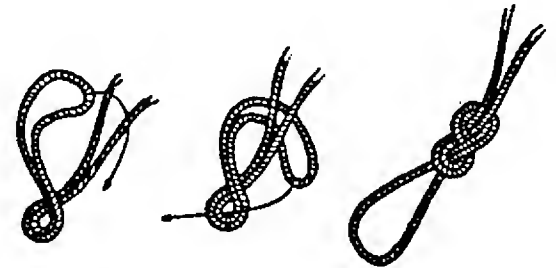

Figure 242 Figure-8-on-a-Bight
2. The end of the belay rope should be attached to the climber's seat harness with a figure-8-on-a-bight. See Figure 242.